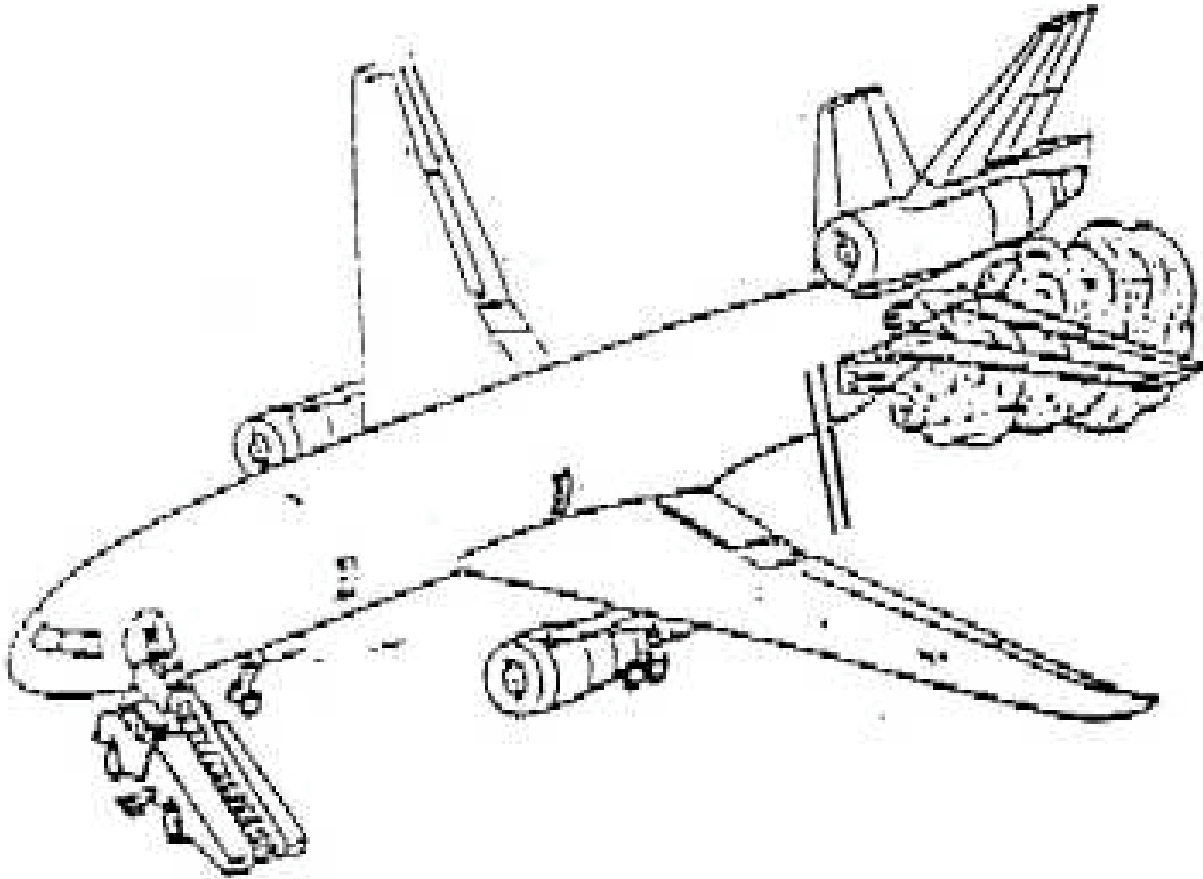

Figure 12
- b. Place fan on mobile stairwell and move into position. (See figure 12.)